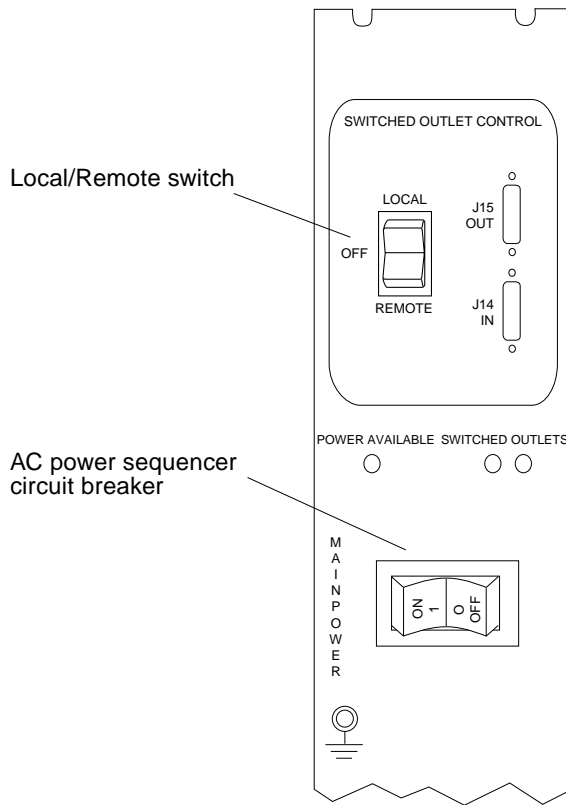

FIGURE 3-1 AC Power Sequencer Control Panel
- b. **Turn the AC power sequencer circuit breaker (FIGURE 3-1) at the rear of the cabinet to the Off position.**
- c. **Set the Local/Remote switch (FIGURE 3-1) to the Remote position.**
- b. **At the rear of the cabinet, turn the AC power sequencer circuit breaker (FIGURE 3-1) to the Off position.**